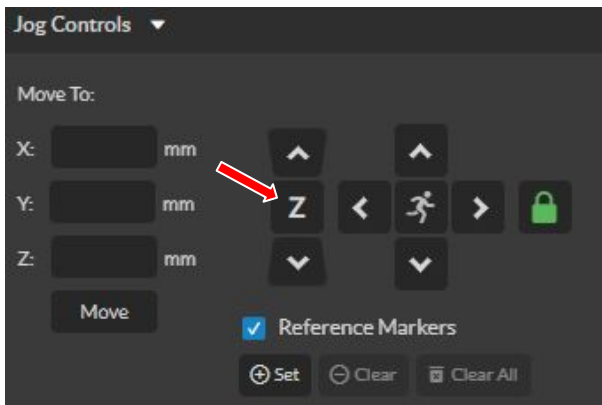

Fig. 17
3. Select the Jog Control arrow to open menu and select the **Z** autofocus button.(See Fig.17)